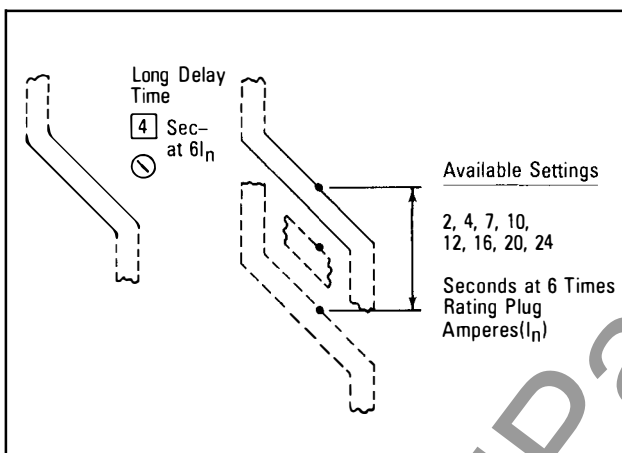

Fig. 4.2 Long Delay Time Settings
Eight (8) available settings, as illustrated in Fig. 4.2, range from 2 to 24 seconds. These settings represent total clearing times at a current value equal to six (6) times the installed rating plug ampere rating (I_N).